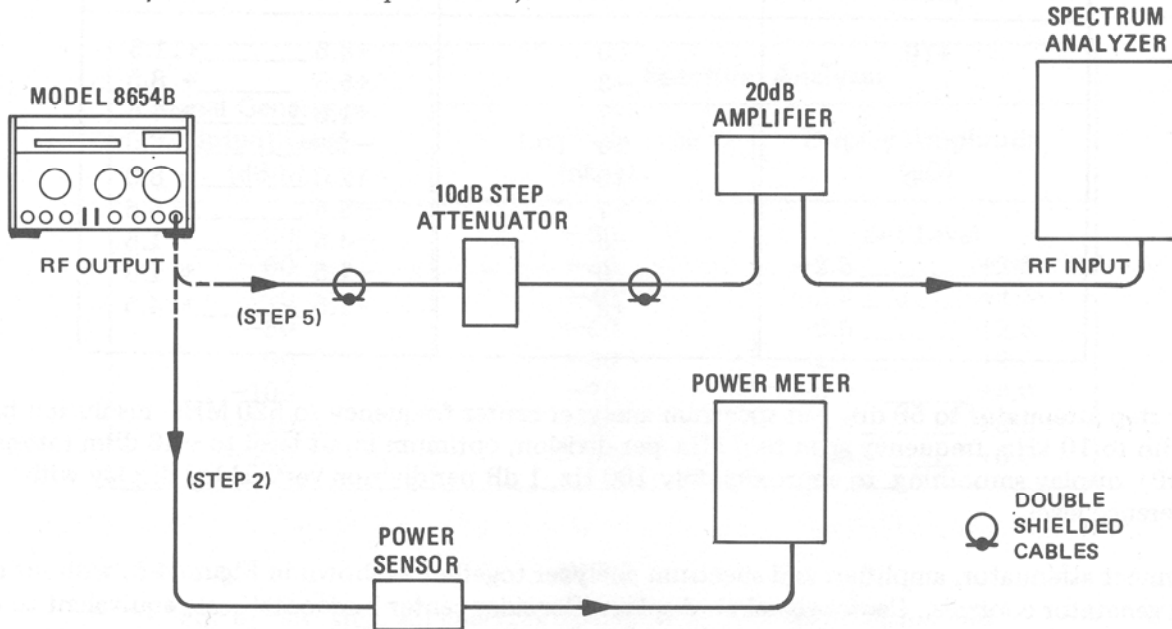

Figure 4-5. Output Level Accuracy Test Setup
- Connect attenuator, amplifier, and spectrum analyzer together as shown in Figure 4-5, without disturbing generator controls. Center signal on display. Consider center horizontal scale equivalent to +3 dBm. With vertical reference level vernier ; set signal peak to be equal to last measured level on power meter.